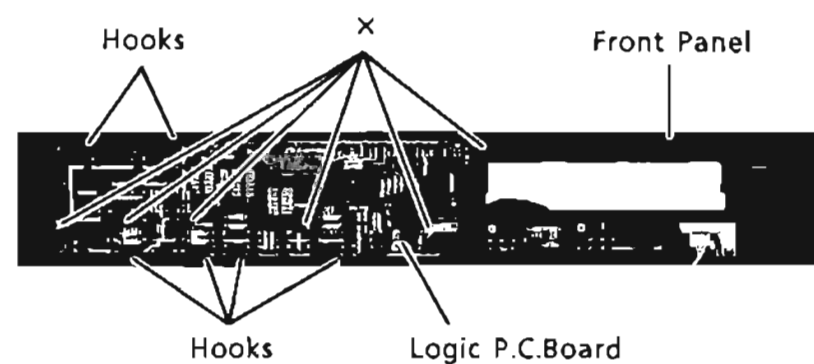

Figure 3
- (1) After removal of the Front Panel, remove six screws marked "x" as shown in Figure 3.
- (2) Remove six Hooks as shown in Figure 3.
- (3) Disconnect all connectors from the Logic P.C.Board.